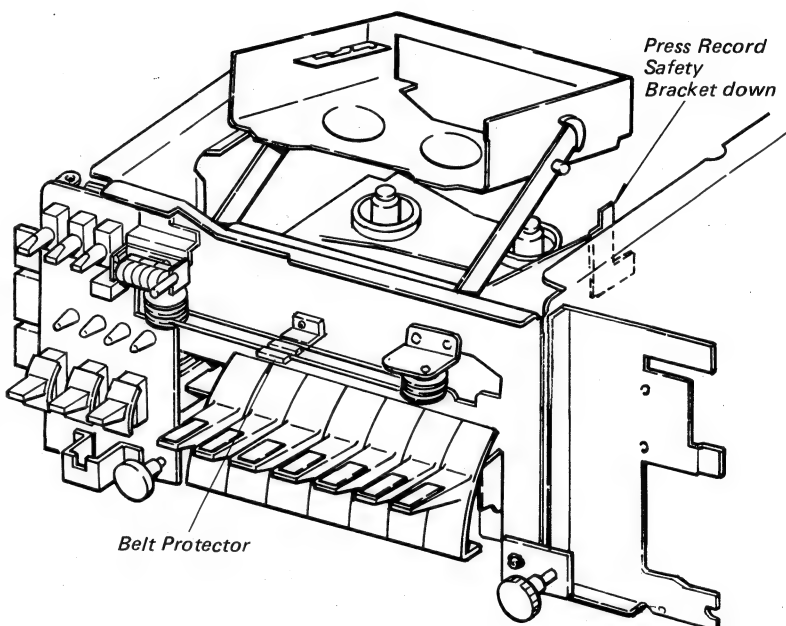

Fig. 5-15 Setting for Operation without Cassette.
4. Press the record safety bracket down to lock the cassette compartment as illustrated in Fig. 5-15. (Pressing the record safety bracket produces the loading signal which moves the loading ring.)